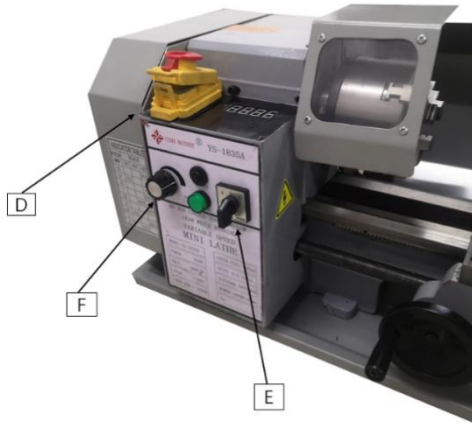

Fig. 9
1. Emergency Button: ON/OFF Switch (D, Fig. 9)
2. Change-over Switch(E, Fig. 9)
3. Variable Speed Control Switch (F, Fig. 9)